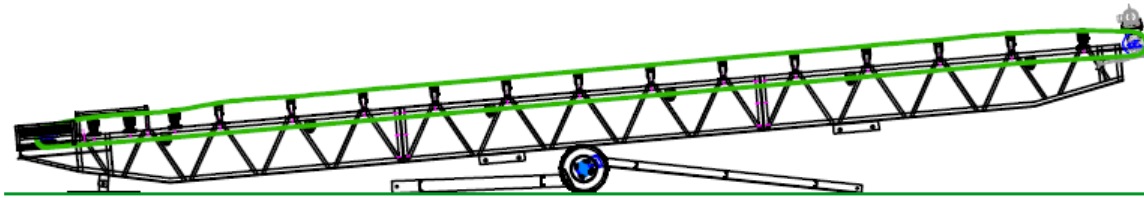

Figure 7
- 7.1 Install Pivot plate, if not already installed. Lift Truss at Head and position directly over assembled undercarriage. (See Figure 7)